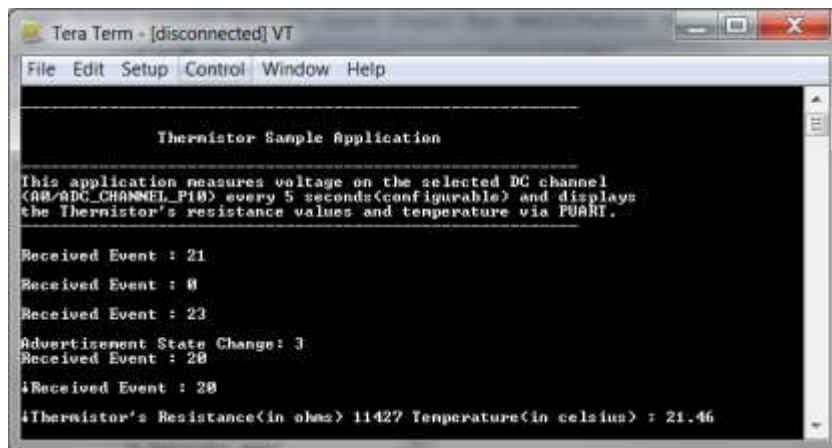

Figure 4-3. env\_sensing\_temp output
3. You will see the resistance of the thermistor and the equivalent temperature at an interval of five seconds as shown Figure 4-3.